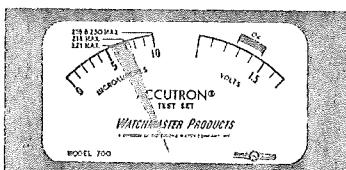

Fig. 23
7. On the other hand, if disengaging the index finger from the wheel, the pointer drops to 7 microamperes or below (fig. 23) then the problem lies within the gear and/or dial train area.